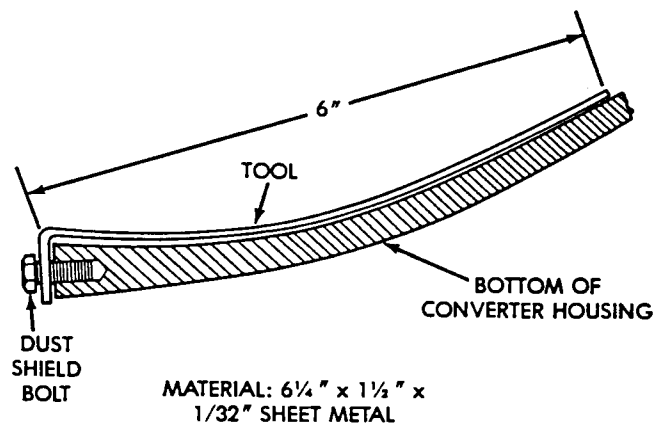

Fig. 5 Leak Locating Test Probe Tool
- (1) Remove torque converter housing dust shield.
- (2) Clean the inside of torque converter housing (lower area) as dry as possible. A solvent spray followed by compressed air drying is preferable.
- (3) Fabricate and fasten test probe (Fig. 5) securely to convenient dust shield bolt hole. Make certain torque converter is cleared by test probe. Tool must be clean and dry.
- (4) Run engine at approximately 2,500 rpm with transaxle in neutral, for about 2 minutes. Transaxle must be at operating temperature.
- (5) Stop engine and carefully remove tool.
- (6) If upper surface of test probe is dry, there is no torque converter leak. A path of fluid across probe